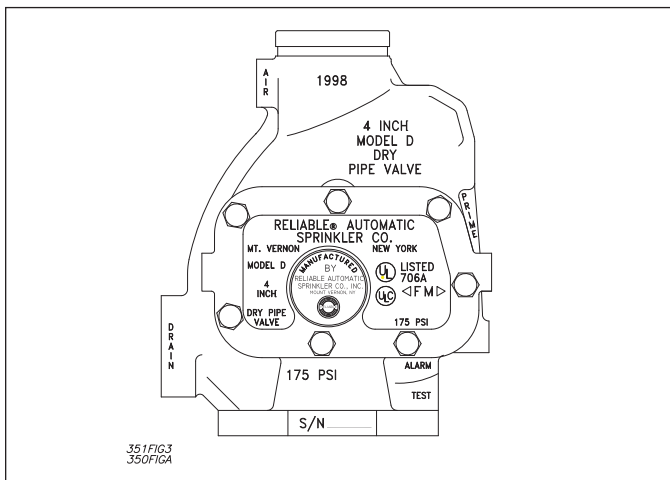

Figure 3
- US Standard Flanged Inlet and Grooved Outlet (Fig. 3):